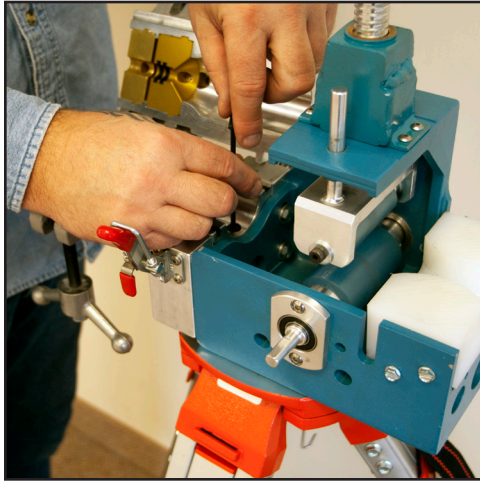

Figure 3. Mount Blower
2. Once in place, secure the Blower Assembly to Drive Assembly using (2) #10-24 x 1 1/2" Capscrews. (See figure 3)